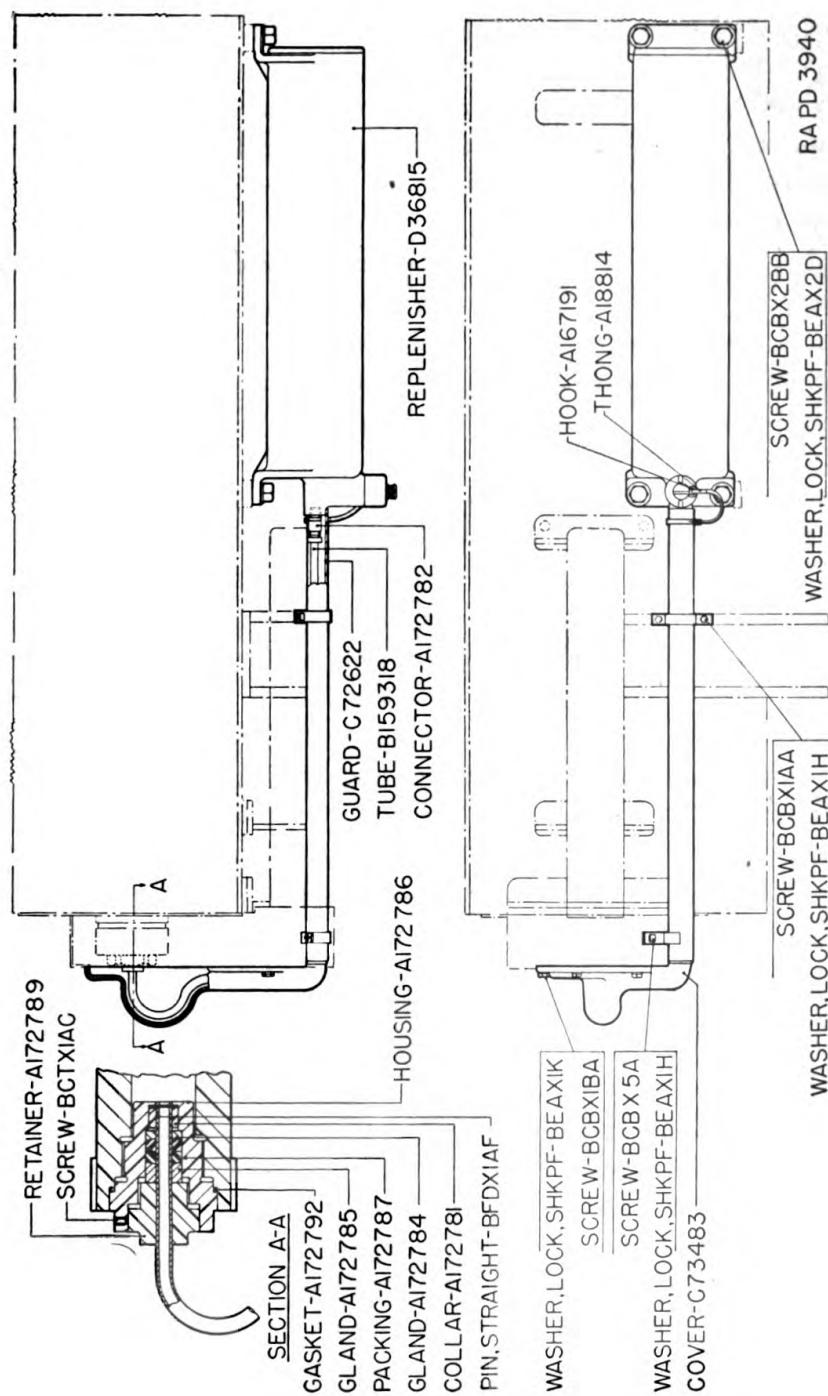

FIGURE 33.—Replenisher and connections.
*b. Disassembly of the replenisher.*—(1) Release the reserve oil in the replenisher. Disassemble the guard (C72622) and tube (B159318) (fig. 33) from the replenisher. Remove the screw retaining the replenisher to the cradle. Fit the assembly beneath the spindle of a drill press with the front end up. Bear down on the replenisher piston guide (B167259) (fig. 34) with the drill press spindle as the guide is unscrewed from the cylinder, so that expansion of the spring will not damage the threads of the cylinder or guide as the guide is unscrewed from the cylinder. Withdraw the piston
① Washer, U379B.
② Nut, U379C.
③ Rod, U379A.